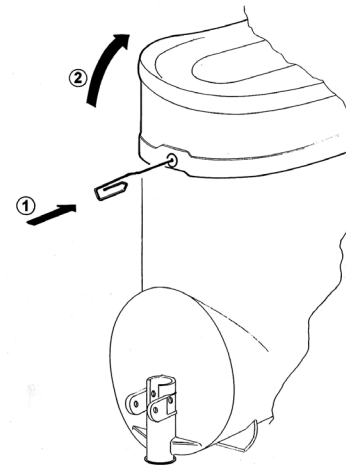

figure 3
- 10 -To release a locked top cover it is necessary to insert a sharpened object in the hole located in the middle of the fixing button, push it and lift the cover. (see figure 3)